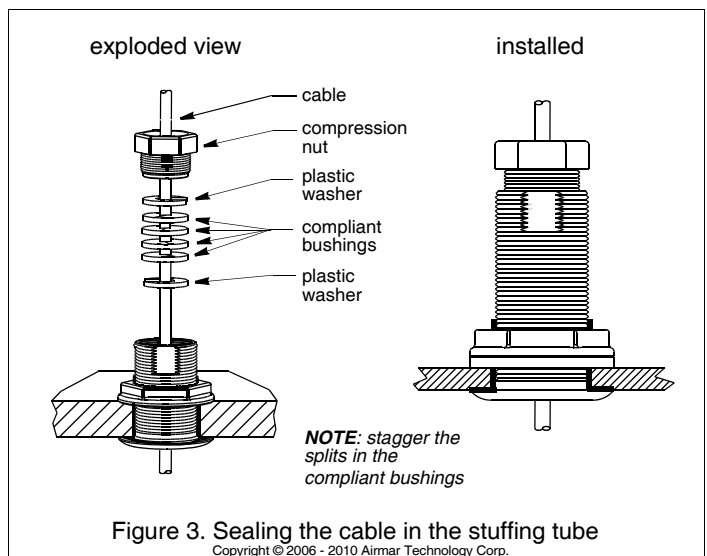

Figure 3. Sealing the cable in the stuffing tube
- Place the four compliant bushings around the cable *above* the plastic washer (Figure 3). Arrange the bushings so that the splits are staggered—*not* aligned. At the top of the stack, press the second pair of plastic washers together to form a closed ring. *Be sure the plastic washers and compliant bushings are stacked as shown in Figure 3.*